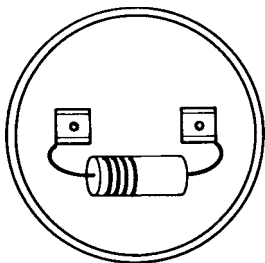

Figure 9-14 Bleeder resistor across capacitor terminals.
3. Use a piece of insulated wire with insulation removed at the ends to sort out the capacitor by placing it across the capacitor terminals. You may or may not get a spark. Do this five times to make sure you have discharged the capacitor. If the capacitor has a resistor across its terminals (see Fig. 9-14), remove one end by desoldering or pulling it loose from the connector. This must be done to prevent damage to the meter movement.